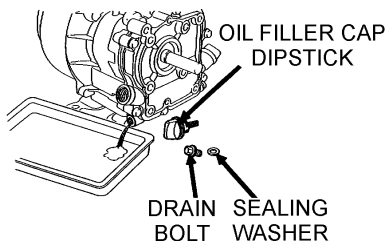

Figure 20. Engine Oil (Draining)
1. Drain the engine oil when the oil is **warm** as shown in Figure 20.